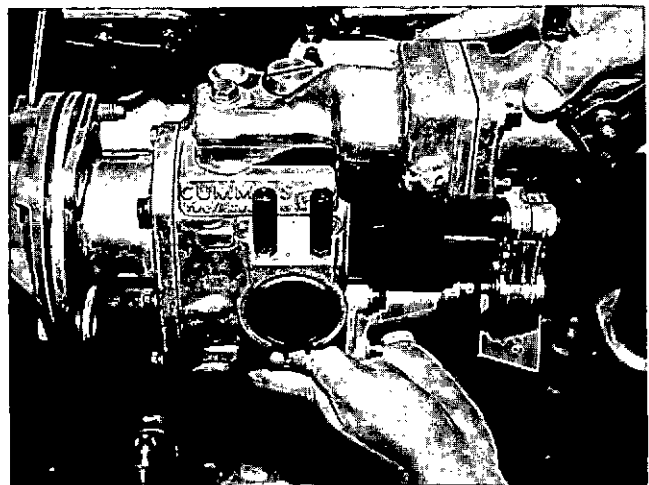

Fig. 14-1-80, V414196. Installing flange mounted fuel pump
1. Install fuel pump to fuel pump drive or air compressor with new gasket and rubber buffer or splined coupling in position. Fig. 14-1-80. Place flatwashers, lockwashers and nuts over studs, or lockwashers and capscrews and tighten.